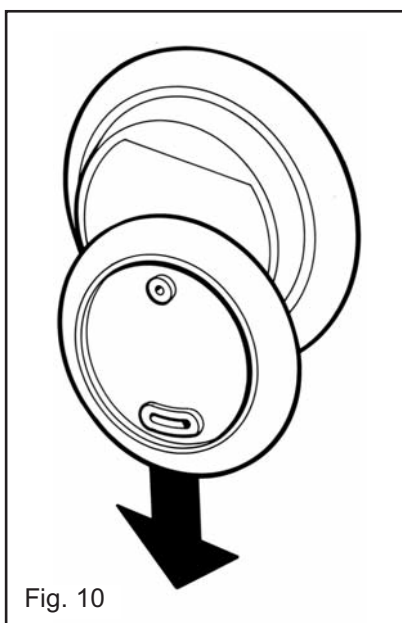

Fig. 10
- Remove backplate from the rear of the Handset by sliding down with hand and away from the Handset (fig 10).